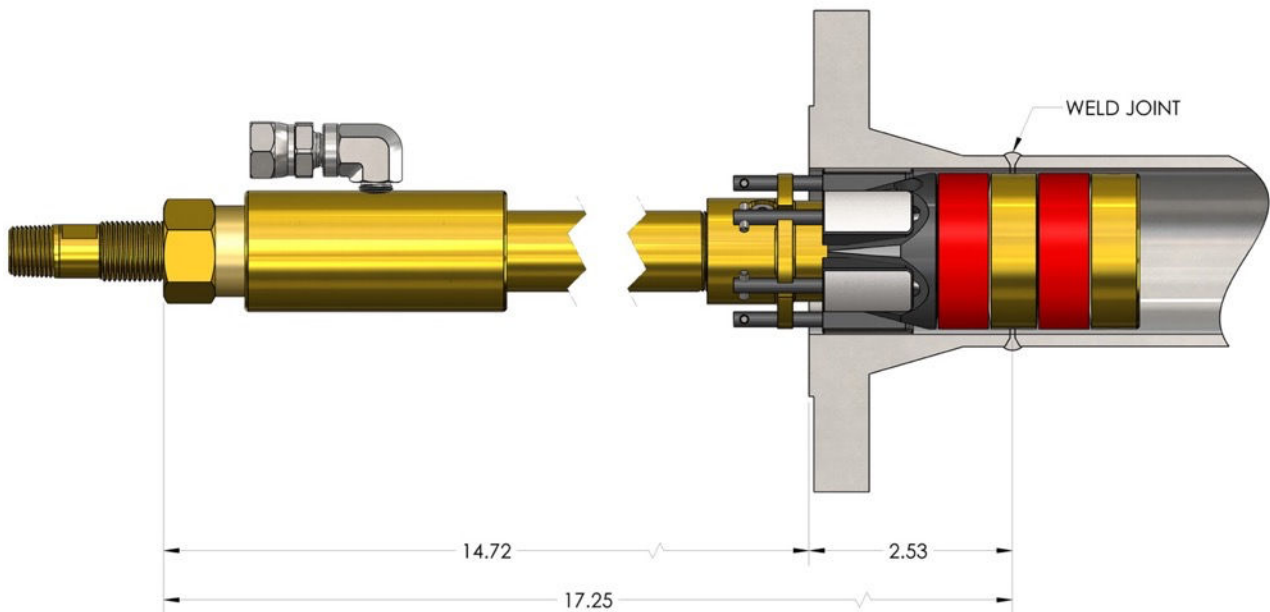

Figure 8: Insertion Depth for Testing Weld
- Based on the calculation and as illustrated in Figure 8, the plug should be inserted into the fitting until the distance from the top of the **Compression Hex Nut (21)** to the end of the fitting measures 14.72".